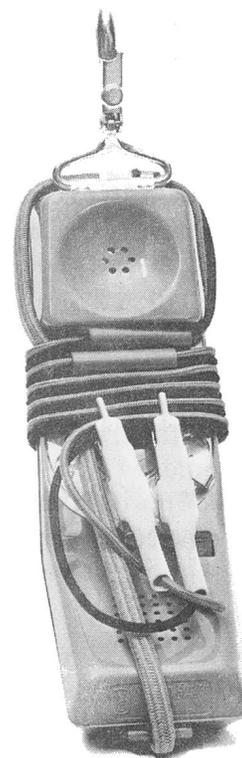

Fig. 7 – Method of Wrapping Cord When Handset is Not in Use
- 2.10 When the handset is not in use, the cord should be wrapped as shown in Fig. 7.